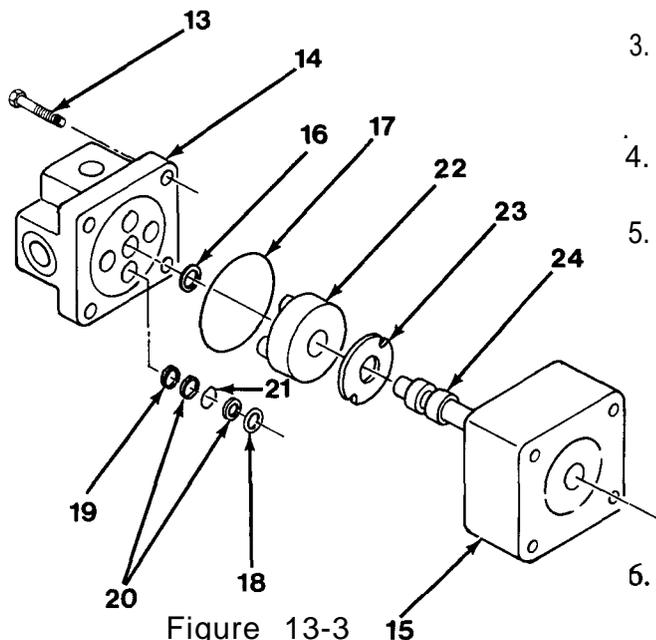

Figure 13-3
1. Remove four socket head capscrews (13, Figure 13-3).
2. Lift body (14) from cap (15).
3. Remove shaft washer (16) and body-cap O-ring (17).
4. Remove four seals (18) and spring seals (19).
5. Remove four back-up seal rings (20) and O-rings (21).